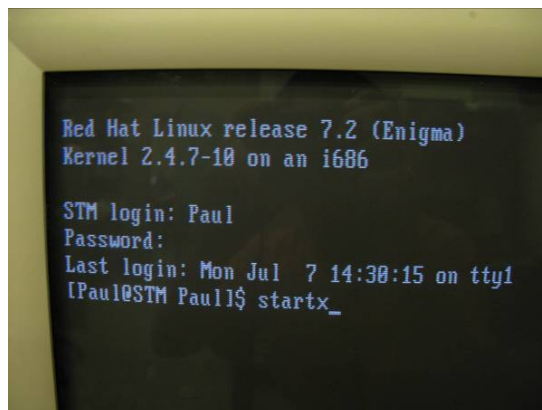

Figure 3.1 Logging in the Linux system.
1. Start the computer on the left of the screen. Choose Linux system. Login with username 'Paul' and password '123456'. Enter the command 'startx' to start the graphic interface. (Fig. 3.1)